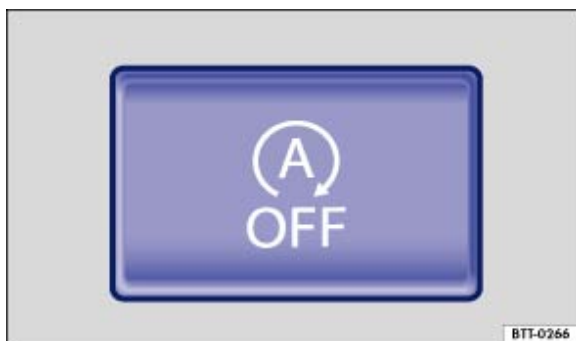

Fig. 152 In the centre console: button for start/stop system
- Press the  button in the centre console → Fig. 152.